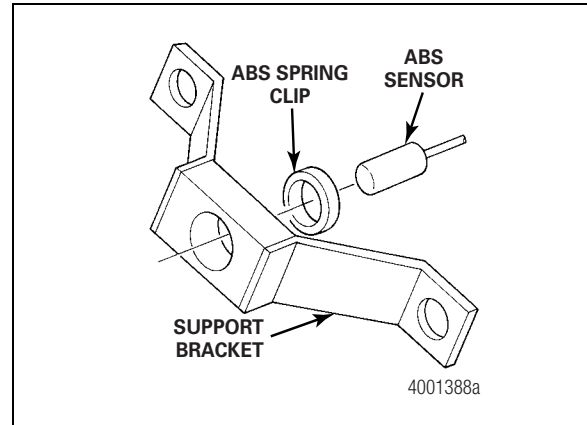

Figure 5.6
- Assemble the ABS spring clip and the ABS sensor into the ABS support bracket. Figure 5.6.